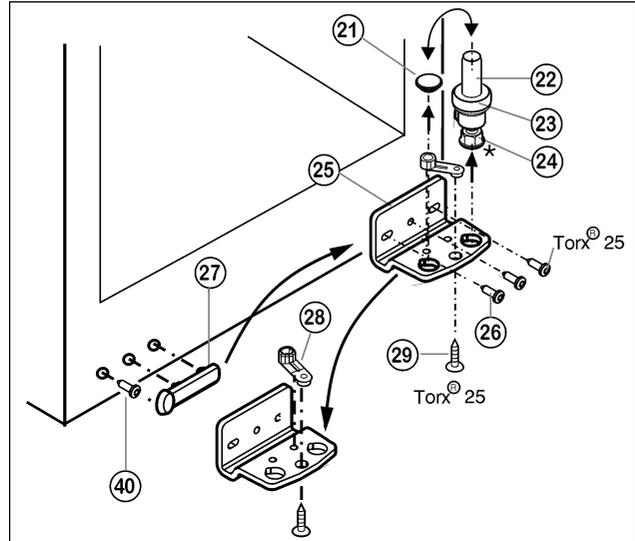

Fig. 5
- Lift out the bearing pin Fig. 5 (22) together with washer Fig. 5 (23) and adjustable-height foot* Fig. 5 (24).
- Lift off the stopper Fig. 5 (21).
- Unscrew Fig. 5 (26) the turn hinge Fig. 5 (25).
- Unscrew Fig. 5 (29) the bearing element Fig. 5 (28), transfer it to the opposite location hole of the turn hinge and screw it firmly into place.
- Carefully lift off the cover on the handle side Fig. 5 (27), undo the screw Fig. 5 (40) and transfer both to the opposite side.
- Screw the turn hinge Fig. 5 (25) firmly into place on the new hinge side, possibly using a cordless screwdriver (**with 4 Nm**).
- Re-insert the stopper Fig. 5 (21) into the other hole.
- Re-insert the bearing pin Fig. 5 (22) together with the washer and adjustable-height foot*. In so doing, pay attention that the locating lug points backwards
- ▶ Lift the stopper (33) out of the door bearing bush and transfer it.
- ▶ Dismantle the door handle (32), stoppers (33) and pressure plates* (34) and transfer to the opposite side.
- ▶ Place the door from above onto the lower bearing pin Fig. 5 (22).
- ▶ Insert the upper turn hinge (12) in the door on the new hinge side.
- ▶ Screw the upper turn hinge (12) **firmly** into place (**with 4 Nm**)(2x Torx® 25) (13). Possibly make preliminary holes with a bradawl or use a cordless screwdriver.
- ▶ Snap the cover (10) and cover (11) into place at the opposite side.
- ▶ Align the door to the appliance housing by way of the two oblong holes in the bottom turn hinge Fig. 5 (25). To do so, unscrew the middle screw.